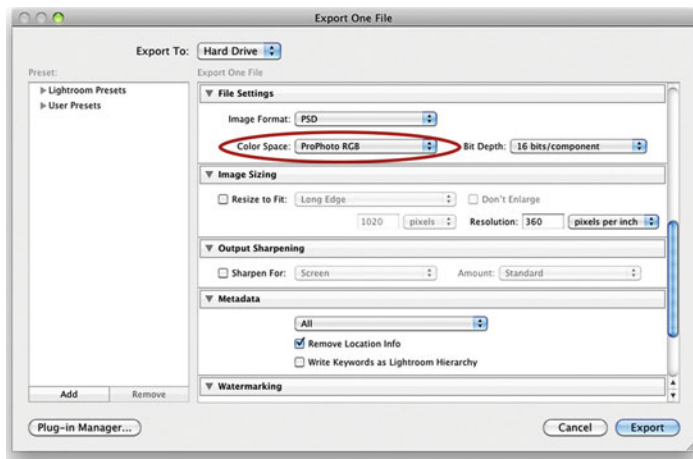

FIGURE 6.28 Export window in Lightroom with ProPhoto RGB selected as the color space.
4. **Exporting images**—From the **Library Module**, clicking **Export** uses the profile set in **File Settings > Color Space** pull-down menu, as seen in Figure 6.28.